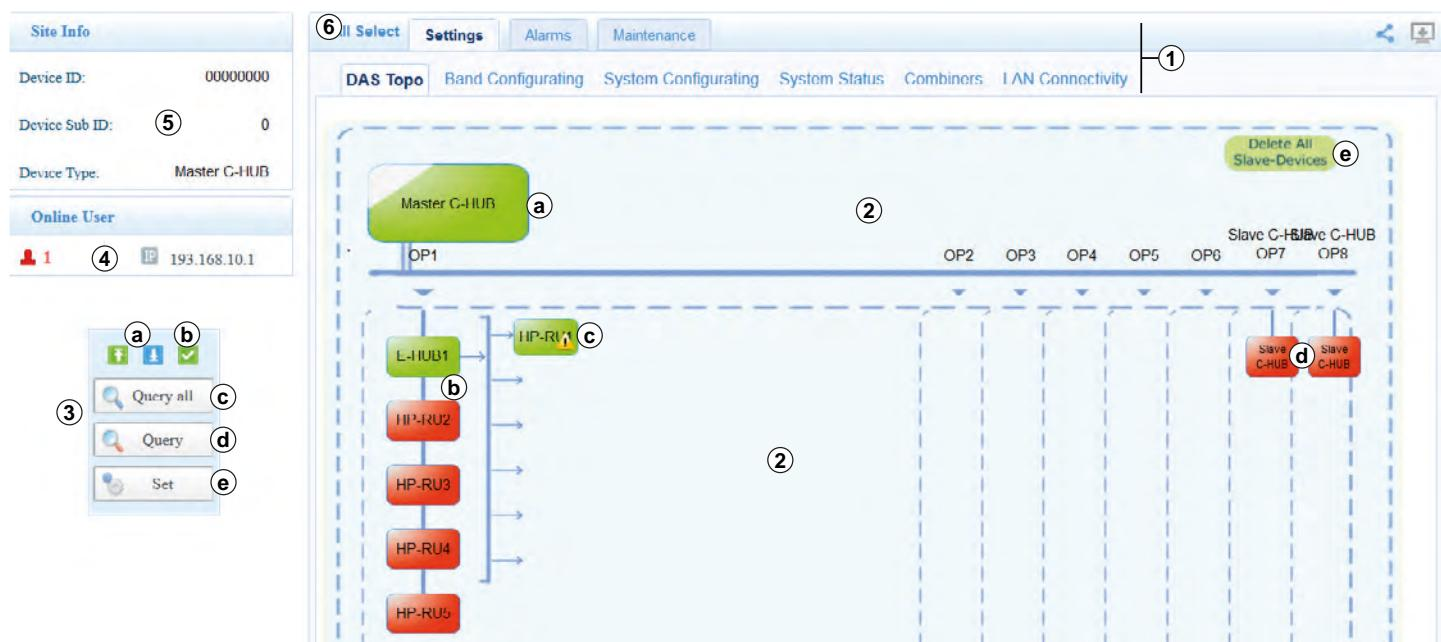

Fig. 18: Web GUI of master C-hub (homepage)
When the web GUI was opened, it always shows the menu item **Settings ▶ DAS Topo(logy)** (② in Fig. 18). Else, the following elements are always visible:
- Main menu ① and parameter select button ⑥
- Control menu ③ (movable)
- Device ID indication ⑤
- Indication of currently connected users ④